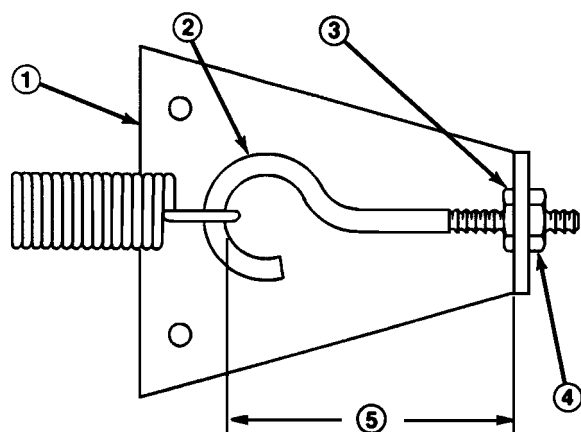

Figure 53
## CHECKING AND ADJUSTING TRACTION LINKAGE (Fig. 53)
4. Rotate, clockwise, until distance between inside of the eyebolt loop and the inside of the spring anchor plate is shortened 3 mm, as shown in figure 53. Tighten the nut.